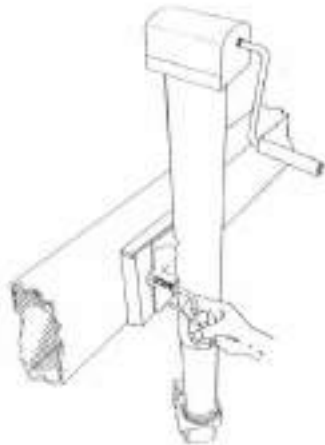

Figure P3: Swivel Jack
- Pull on the lock pin. See Figure P3.